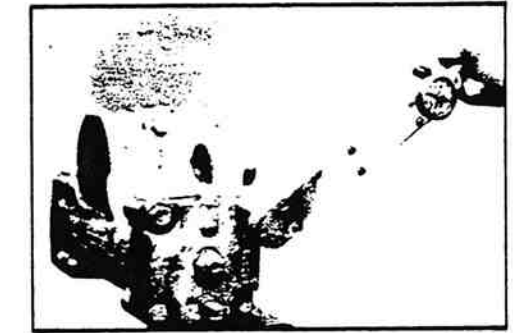

Figure 11-72. Tightening End Cover Bolts.
21. Install the four end cover bolts (30) and washers (29) and tighten the bolts to 145-155 ft. lbs. (196-210 Nm) torque (figure 11-72).